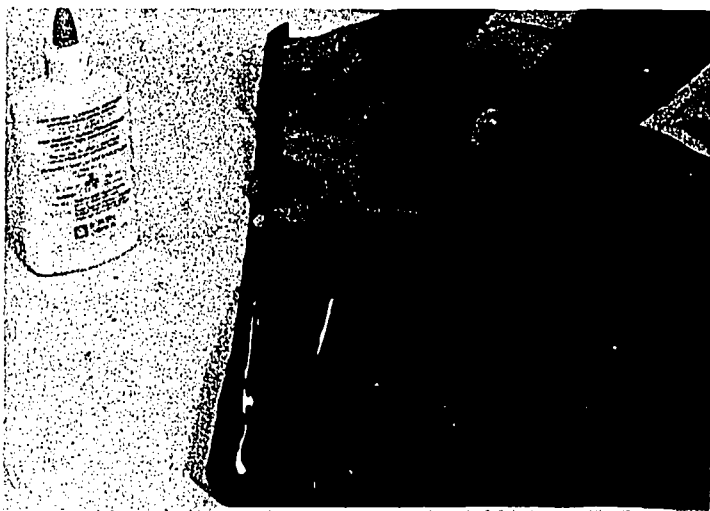

Fig. 90A-1. Paper Is Glued to the Bottom of the Site Board
3. Fold the construction paper over the edges of the site board and glue or staple it to the bottom of the board. See Fig. 90A-1.